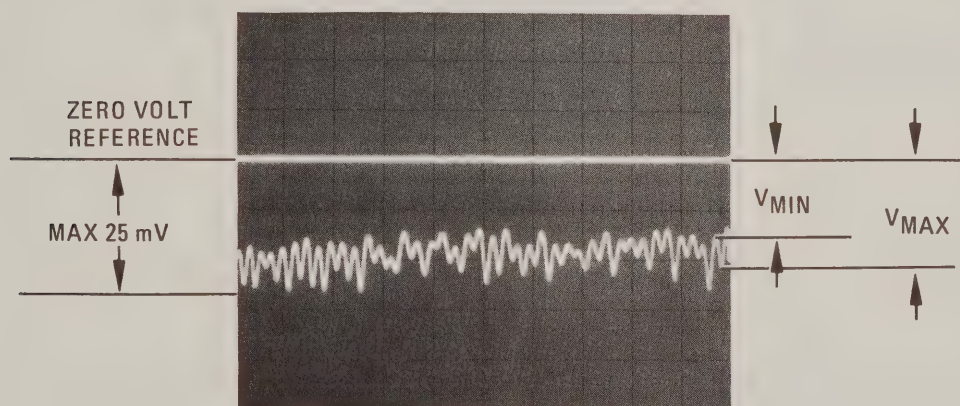
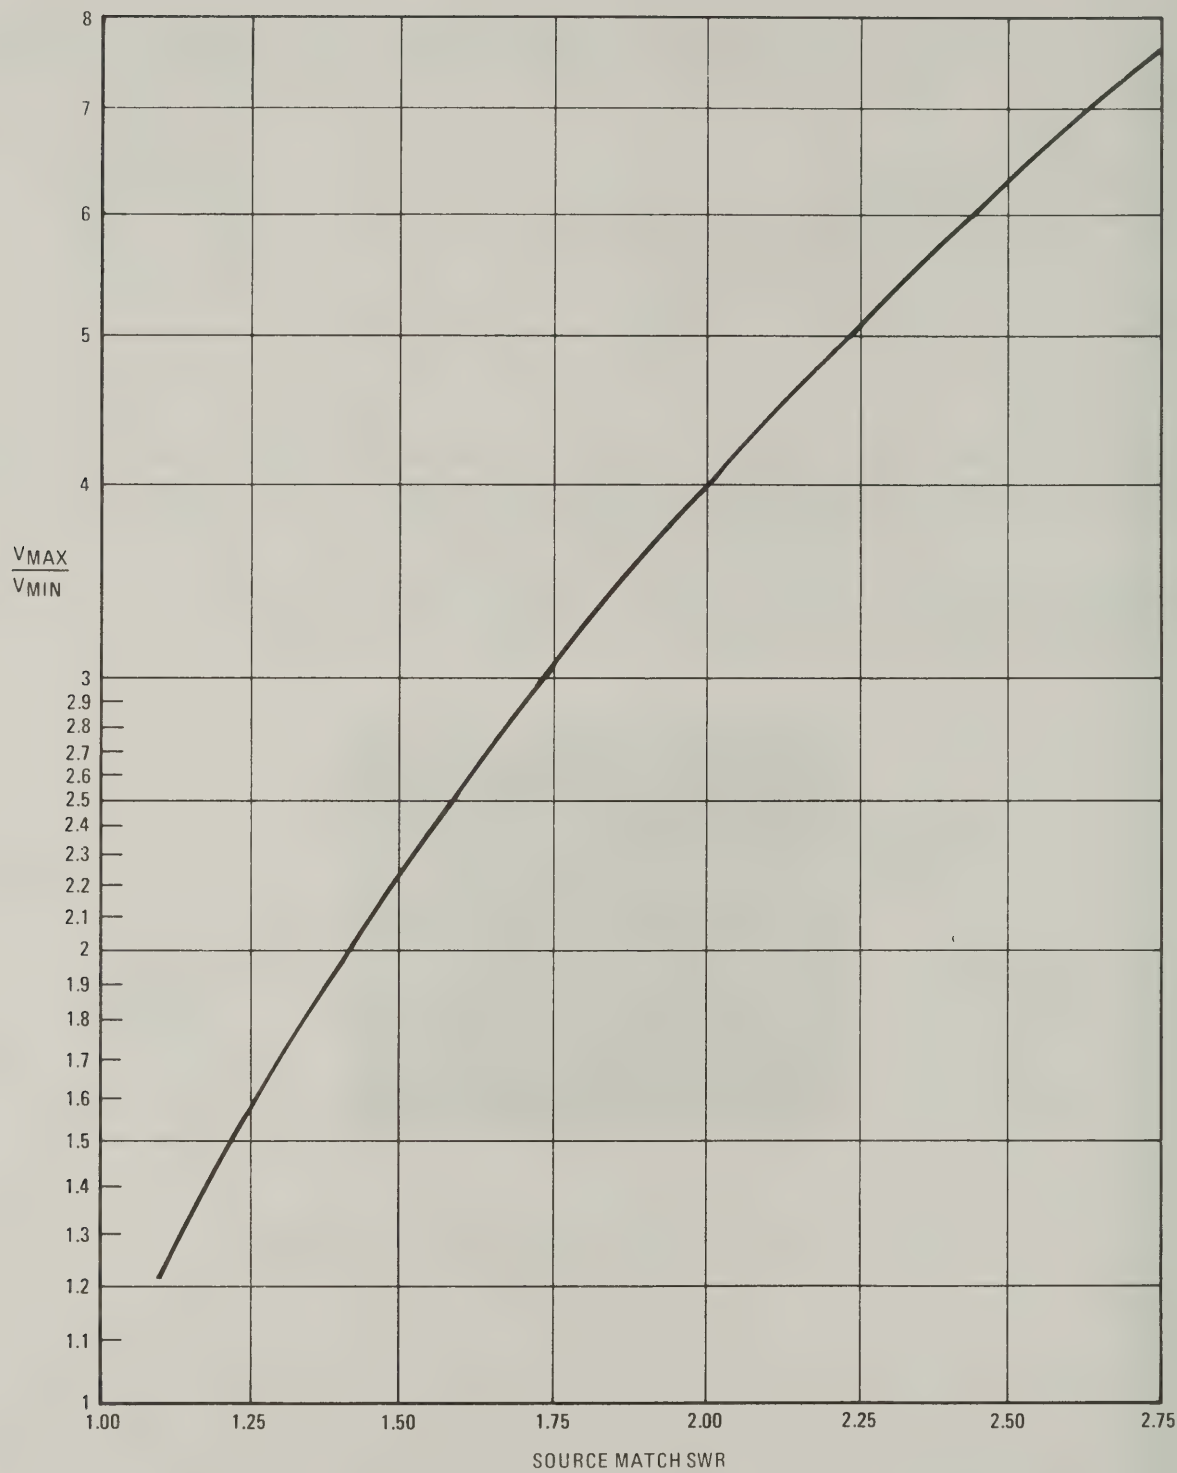

Figure 4-13. Typical Pattern of a Swept SWR Measurement
Figure 4-14. Graph for Converting Oscilloscope Trace to Source Match SWR
- c. Display swept power output trace on oscilloscope (Figure 4-13). Select largest V MAX/V MIN ratio on oscilloscope display and convert it to source SWR, using Figure 4-14. The SWR should be <1.9.